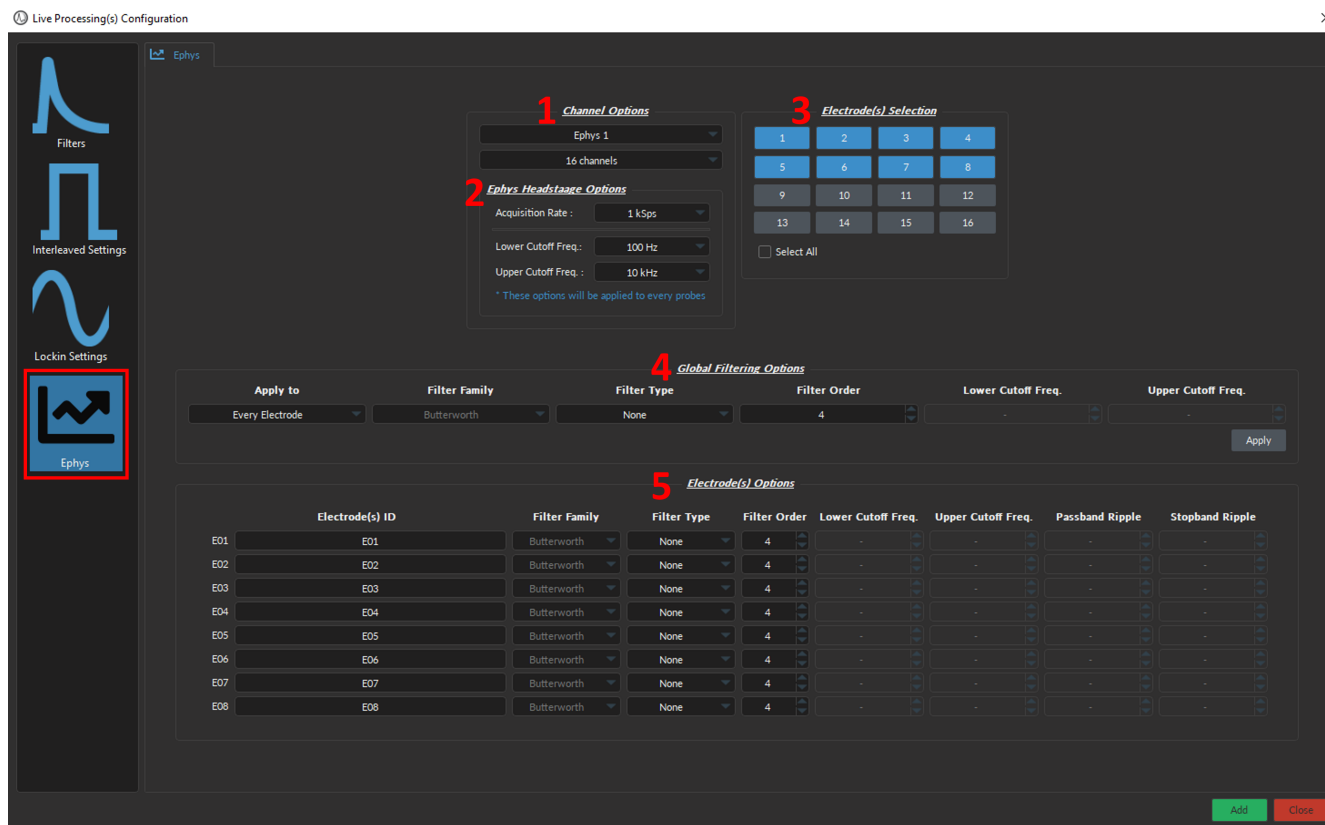

Figure 11.90: Live Processing, Ephys
The **Ephys** presets allows users to set individual filter parameters for each electrode within a multi-electrode array. The **Live Processing Ephys** configuration is split into five sections (Fig.11.90):
1. The **Channel Options** (Fig. 11.90, 1) includes the following parameters:
2. The **Ephys Headstage Options** (Fig. 11.90, 2) includes the following parameters:
3. The **Electrode(s) Selection** (Fig. 11.90, 3) selects which of the total **Channel Number** are enabled (in blue). Allows users to disable (greyed out) broken electrode sites or electrodes that are not in the region of interest. No data will be collected from the disabled electrode(s). Use the **Select All** checkbox to enable all electrodes simultaneously.
4. The **Global Filtering Options** (Fig. 11.90, 4) include the following:
5. The **Electrode(s) Options** (Fig. 11.90, 5) individually sets the filtering options for each electrode within the array. The number of rows corresponds to the number of enabled electrodes in the **Electrode(s) Selection** (in blue). The filtering parameters functionalities (Fig. 11.92, b-f) are the same as the ones defined above in the **Global Filtering Options** (Fig. 11.91, b-f).